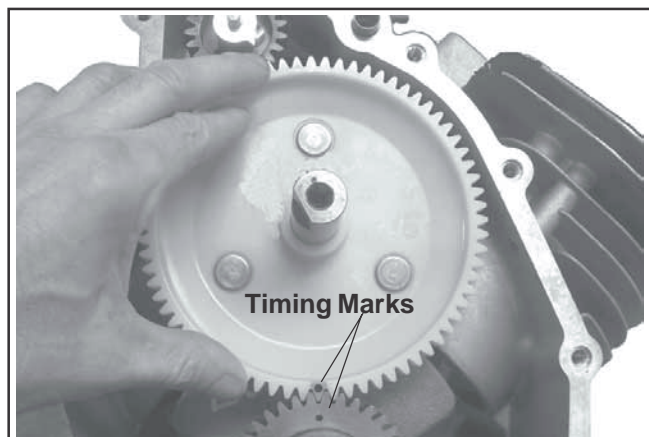

Figure 10-22. Installing Camshaft and Aligning Timing Marks.
3. Slide the camshaft into the bearing surface of the crankcase, positioning the timing mark of the camshaft gear at the 6 o'clock position. Make sure that the camshaft gear and crankshaft gear mesh, with both timing marks aligned. See Figure 10-22.